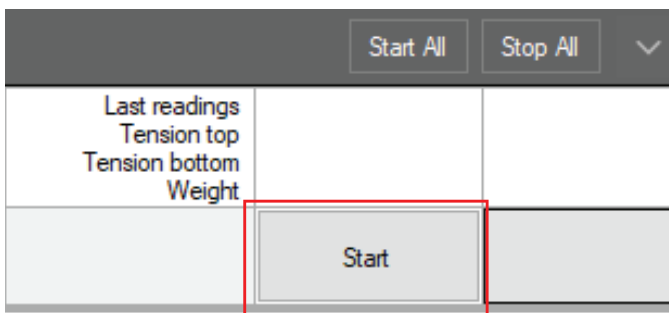

Figure 63 Start in Manager
2. Select **Start** to start the measurement (Figure 63).